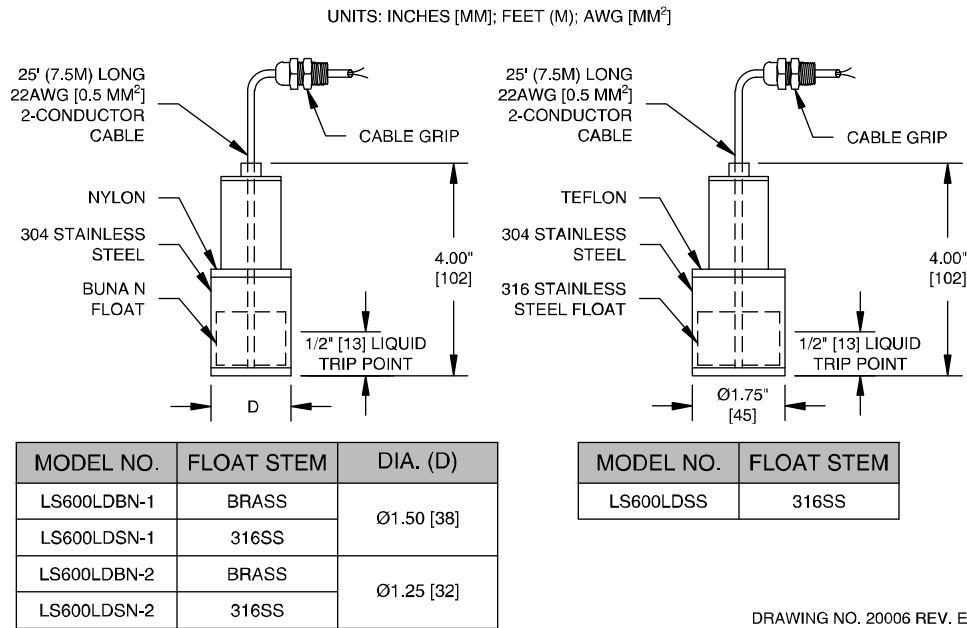
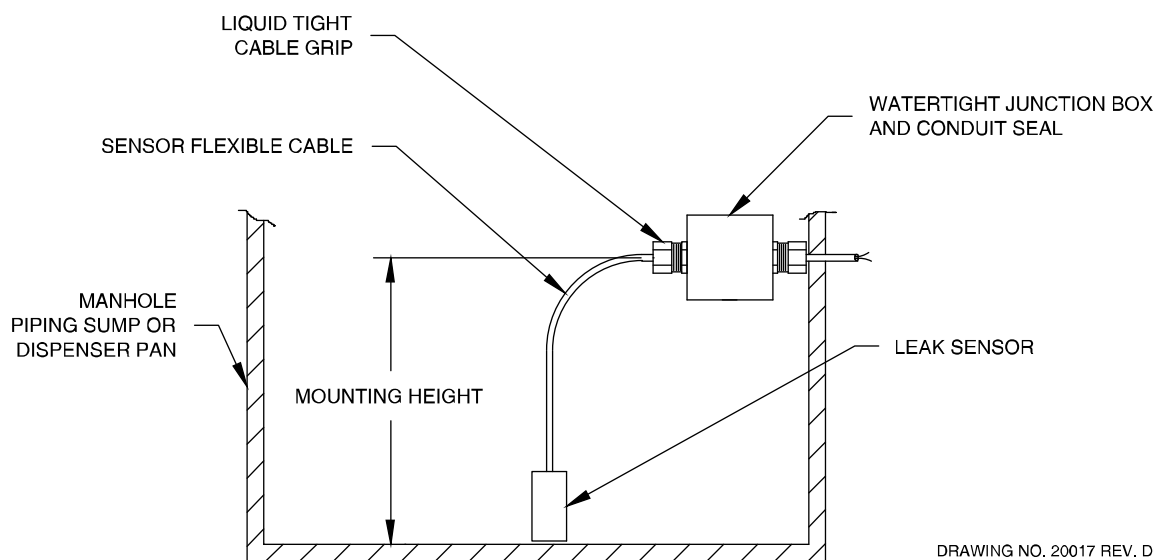

Figure 1-5 – LS600 LD Series
Figure 2-7 – Leak Sensor Installation in Piping Sumps, Manholes, and Dispenser Pans
TMS1000D can be integrated with a variety of liquid sensors used for monitoring secondary containment areas around tanks and pipes. The maximum is 2 sensors depending on the overall job configuration; check the specific job design drawings for the actual number and type specified. Figures 1-5 through 1-8 show four (4) typical sensor types provided by Pneumercator with their most typical applications. Other non-Pneumercator models may be used; however, their use with TMS1000D should have been approved before attempting to wire them into the system.
Check the specific design drawings for the job, or choose the sensor type desired from Figures 1-5 and 1-6. Install sensor per Figure 2-6 as follows:
Check the specific design drawings for the job, or choose the sensor type desired from Figures 1-5 and 1-6. Install sensor per Figure 2-7 as follows: